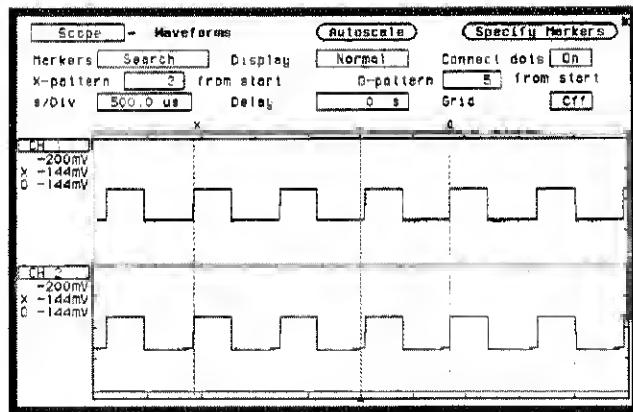

Figure 25-21. Search Markers Menu
1. In the Waveforms menu, select Markers field. When the pop-up appears, select the Search field. With Markers set to Search, two new fields will appear: X-pattern from start, and O-pattern from start. Set the X-pattern to 2, and the O-pattern to 5. Set the s/Div to 500  $\mu$ s. See figure 25-21.